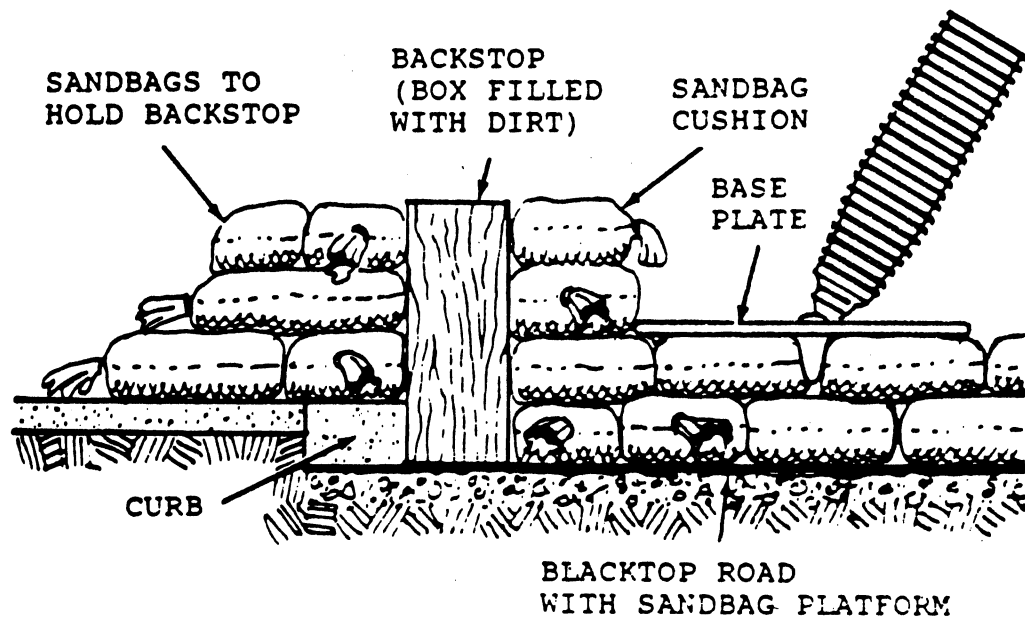

Fig 4-2. Firing platform for hard surface.
- (2) Hard surfaces. Once again fill sandbags with dirt/soil. Stack the sandbags at least two bags high. Cover the area for bipod movement (approx 3 ft). Using a backstop would also help in ensuring the baseplate does not shift (fig 4-2).